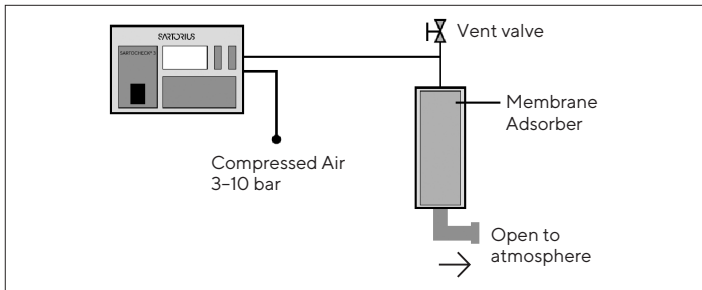

Fig. 8: Set up of diffusion test with Sartocheck®.
► Install adsorber as shown in Fig. 8.